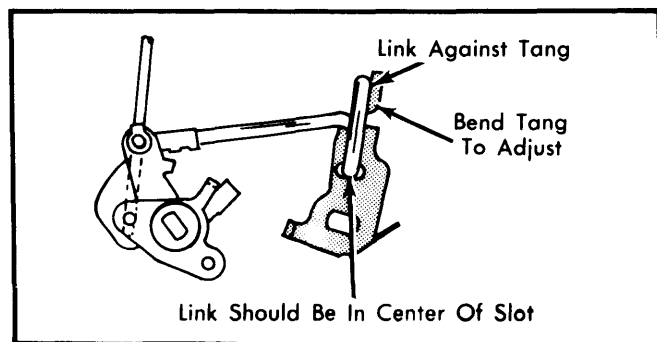

Fig. 13 Adjusting Secondary Throttle Opening Linkage
1) Open primary throttle valves until secondary throttle link just contacts tang on secondary throttle lever. See Fig. 13.